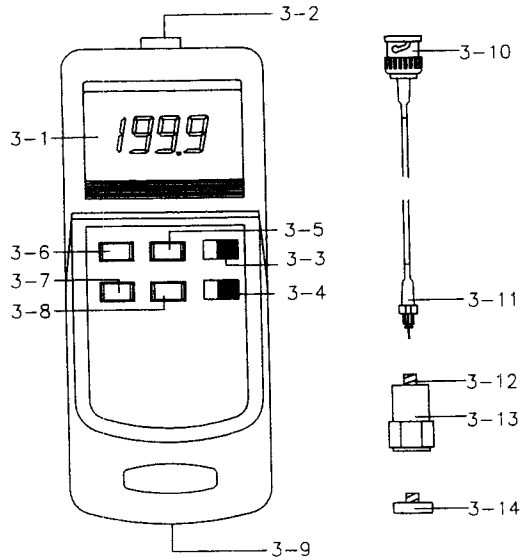

Fig. 1
- 1) Plug in the " BNC plug of cable " ( 3-10, Fig. 1 ) to the " BNC socket of meter " ( 3-2, Fig. 1 ).
- 2) Plug in the " Mini plug of cable " ( 3-11, Fig. 1 ) to the " Input socket of vibration sensor " ( 3-12, Fig. 1 ).
- 3) For the acceleration measurement, select the " Acceleration/Velocity switch " ( 3-4, Fig. 1 ) to the " ACC. " position.
For the velocity measurement, select the " Acceleration/Velocity switch " ( 3-4, Fig. 1 ) to the " VEL. " position.
- 4) Select the " RMS/PEAK switch " ( 3-3, Fig. 1 ) to the " RMS " position.
- 5) Power on the meter by pushing the " Power button " ( 3-6, Fig. 1 ) once.
- 8) If the surface material of measuring article is the ferrous material, connect " Vibration sensor " ( 3-13, Fig. 1 ) with the " Magnetic base " ( 3-14, Fig. 1 ), refer to Fig. 3, page 6. Put the whole unit ( Vibration sensor & Magnetic base ) to the surface of measuring article, refer to Fig. 4, page 7
Before the measurement if select the " RMS/PEAK switch " ( 3-3, Fig. 1 ) to the " PEAK " position. Then during the measurement, the display will display the peak value.
During the measurement, push the " Data Hold button " ( 3-5, Fig. 1 ) will hold the measured value & the LCD will indicate " D.H." symbol. Push the " Data hold button " again to release the data hold function.
- \* The DATA RECORD function displays the maximum, minimum and average readings. To start the DATA RECORD function, press the " RECORD Button " ( 3-7, Fig. 1 ) once. " REC " symbol will appear on the LCD display.
- (a) Push the " RECALL button " ( 3-8, Fig. 1 ) once, the " Max " symbol along with the maximum value will appear on the display.
**During the measurement, push the " Record Button " ( 3-7, Fig. 1 ) to execute the memory record function.**
- 2) Loóse the screw from the battery cover, then open the " Battery Cover " ( 3-9, Fig. 1 ) away from the instrument and remove the battery.